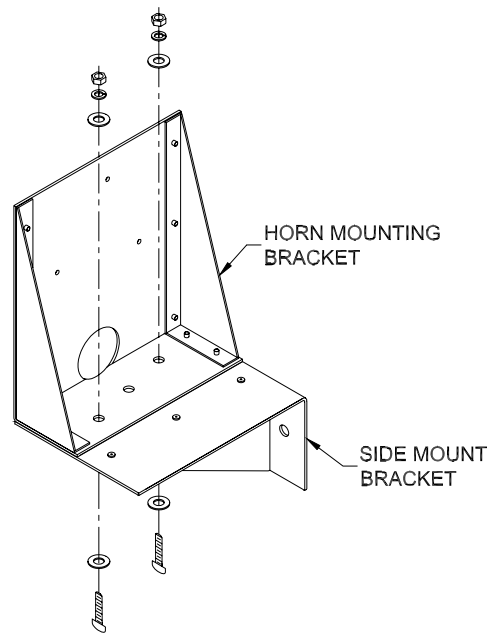

Figure 8 Side Mount Bracket Removal
- The horn mounting bracket has a side mount bracket attached. If the horn is going to be mounted on top of the scoreboard, remove the side mount bracket as seen in figure 8.